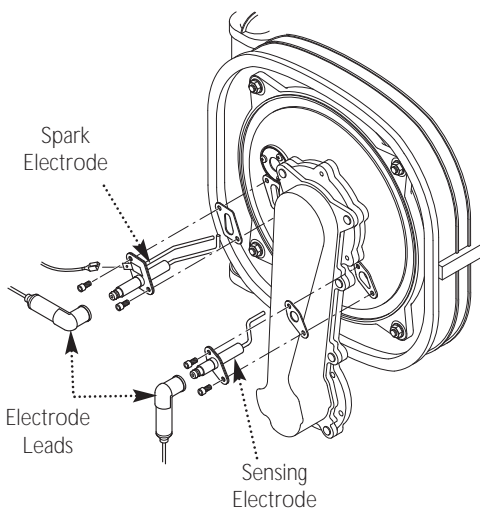

Fig. 77
14.2 Spark and Sensing Electrodes (Fig. 77)